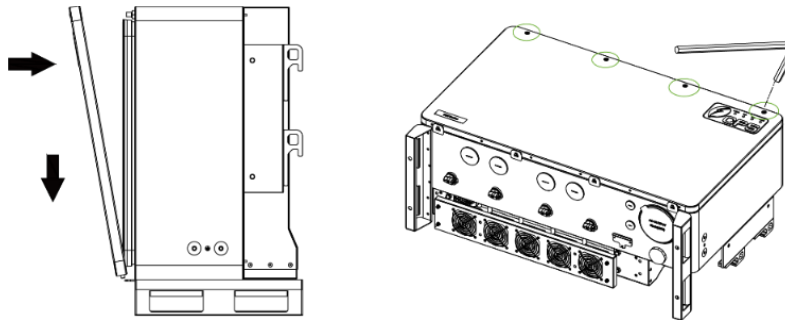

Figure 4-14 Reinstall the Upper Cover
5. Finally, use a 5 mm socket head screw wrench to fasten the four screws on the front cover as shown in Figure 4-14 and torque to 26 in-lb (3 N·m):